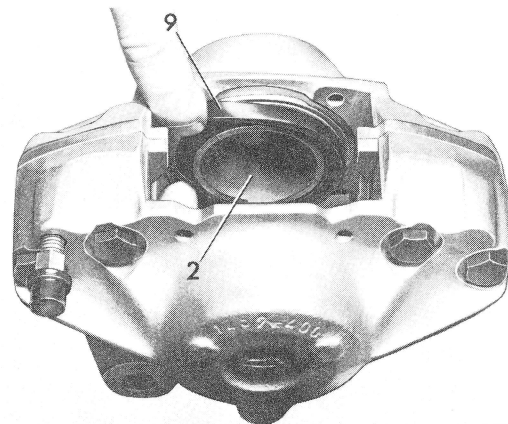

Fig. 19
**14** On Bendix (Bx)-caliper, attach dust cap to flange on caliper (Fig. 19).